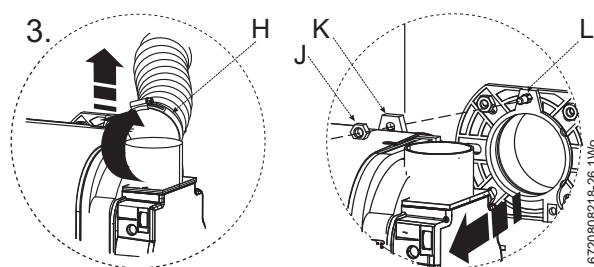

Fig. 38
3. Unscrew to loosen the retaining ring (H) that secures the flexible air supply tube to the burner and pull the flexible air supply tube free from the burner (see figure 38).